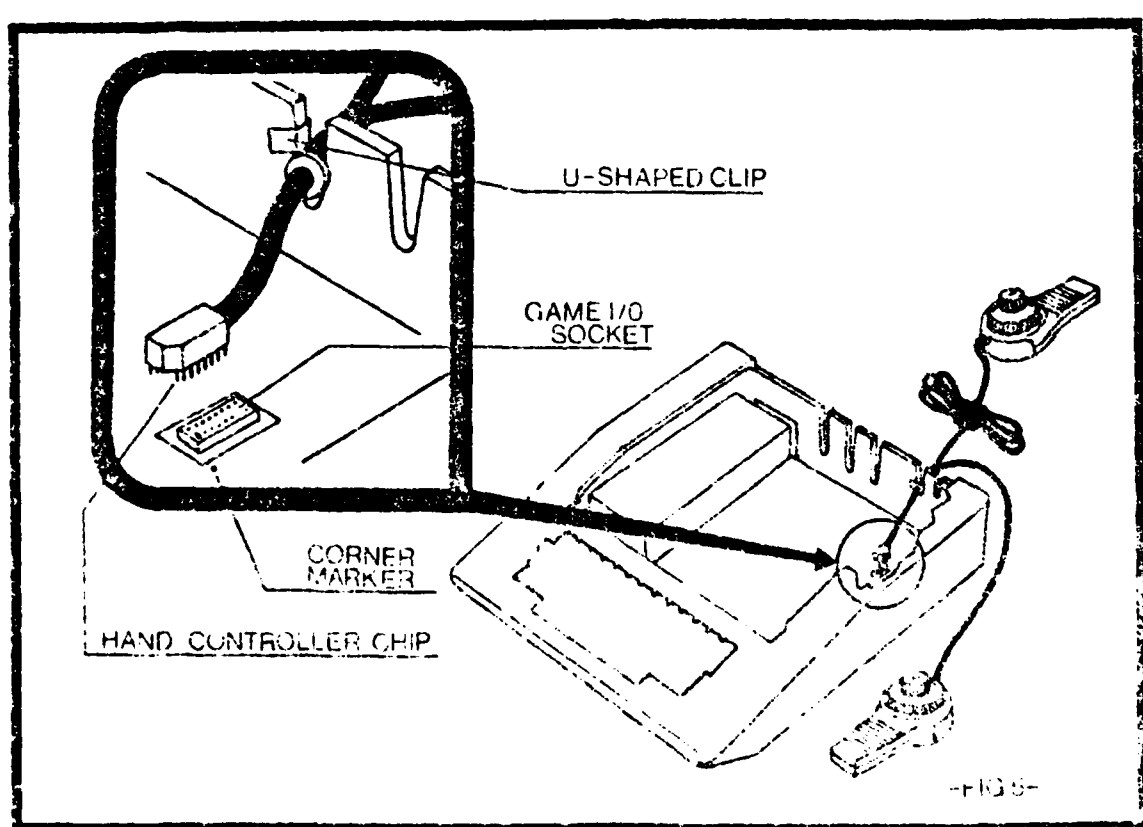

Figure 3-5. Installation of the hand controller.
3.3.1 Task 1: Select the correct hand controller. Upon unpacking, there are two hand controllers each attached by cables to a plug. The hand controllers in this set are labelled "0" and "1"; these numbers are cast in plastic on the knob of each hand controller. Only the controller labeled "0" will work, so it is necessary that controller "1" be secured behind the computer. To do this, wind the cord around the hand controller and bind this with a rubber band or a twist tie; this is illustrated in Figure 3-5 below.
3.3.3 Task 3: Insert hand controller chip into GAME I/O socket. On the end of the cord that is now lying within the computer, there is a black, rectangular-shaped chip or plug with pins extending from the bottom. Be careful when inserting this plug because the pins bend easily. With the cord on the chip facing toward the rear of the Apple II, insert the chip into the socket labeled GAME I/O (I/O means input and output; see Figure 3.5).